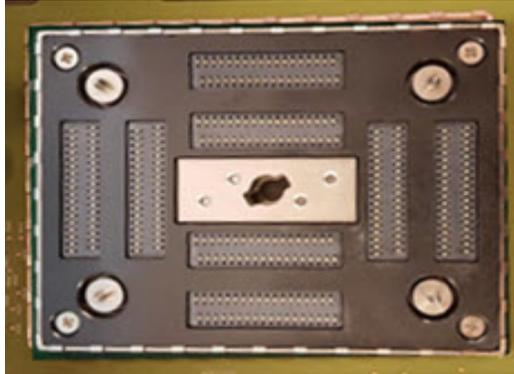

Figure 6.18 Turbo System Interposer Assembly
*Note: Nest frame parts listed above were included on early production systems. Most later systems have a nest frame assembly that looks different, but is backward compatible. This nest frame below comes as a complete assembly under one part number and should be used to repair any system that already has this style. Parts are not interchangeable between nest frame assembly types. See Figure 6.18.*